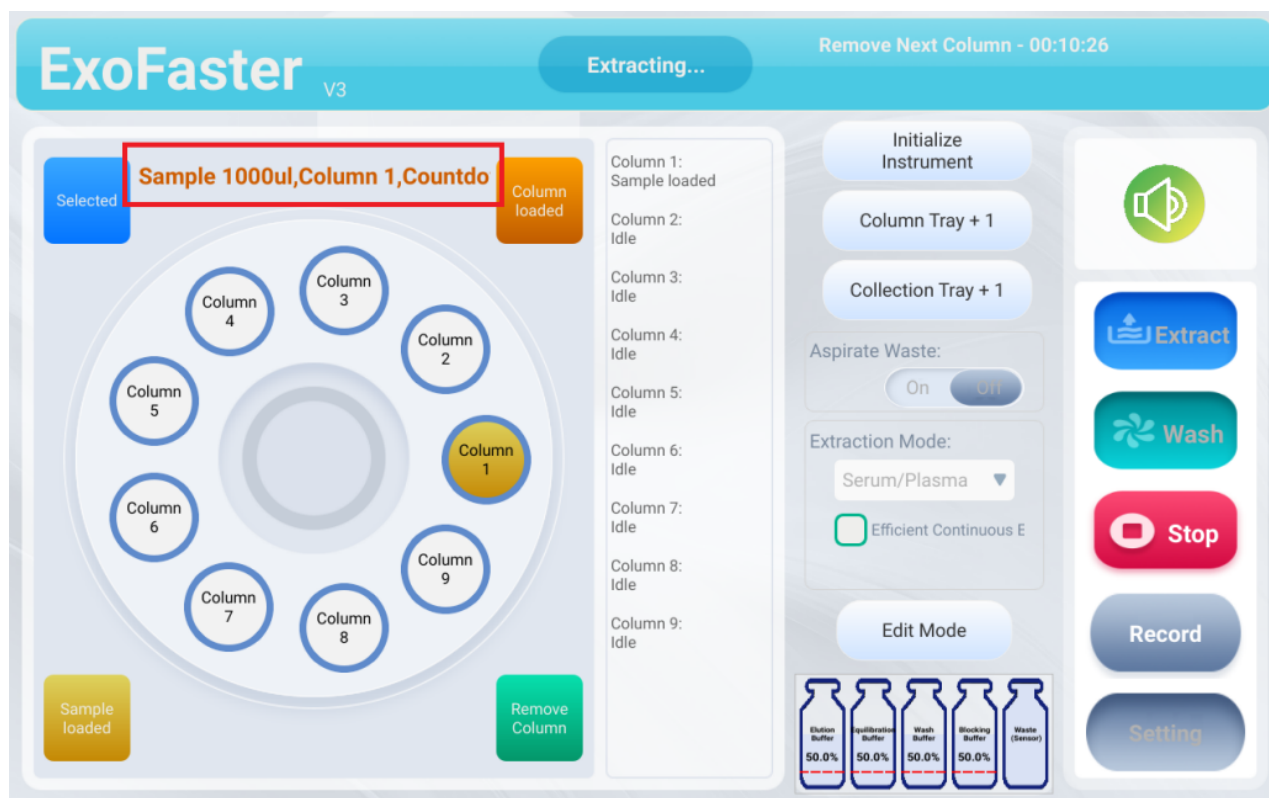

Figure 7
- After ~26 min: the system prompt for addition of sample. Load each sample sequentially, one at a time (See Figure 7).